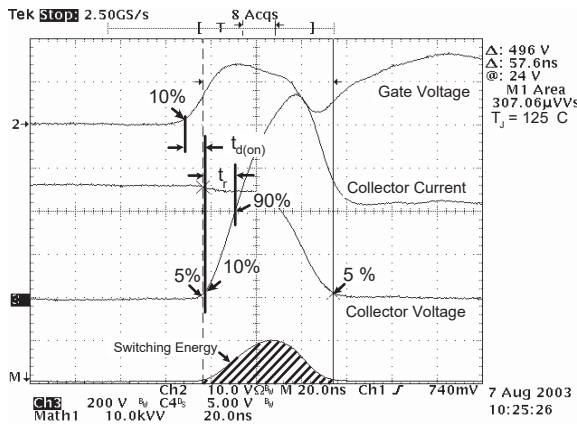

Figure 18, Turn-on Switching Waveforms and Definitions
① Repetitive avalanche causes additional power losses that can be calculated as $P_{AV} = E_{AR} * f$
② Pulse Test: Pulse width < 380 μs , Duty Cycle < 2%
③ See MIL-STD-750 Method 3471
④ Starting $T_J = +25^\circ C$, $L = 194mH$, $R_G = 25\Omega$, Peak $I_L = 2.2A$
⑤ dv/dt numbers reflect the limitations of the test circuit rather than the device itself. $I_S \leq -I_D 11A$ $di/dt \leq 700A/\mu s$ $V_R \leq V_{DSS}$ $T_J \leq 150^\circ C$
⑥ E_{on} includes diode reverse recovery. See figures 18, 20.
⑦ Repetitive avalanche causes additional power losses that can be calculated as $P_{AV} = E_{AR} * f$